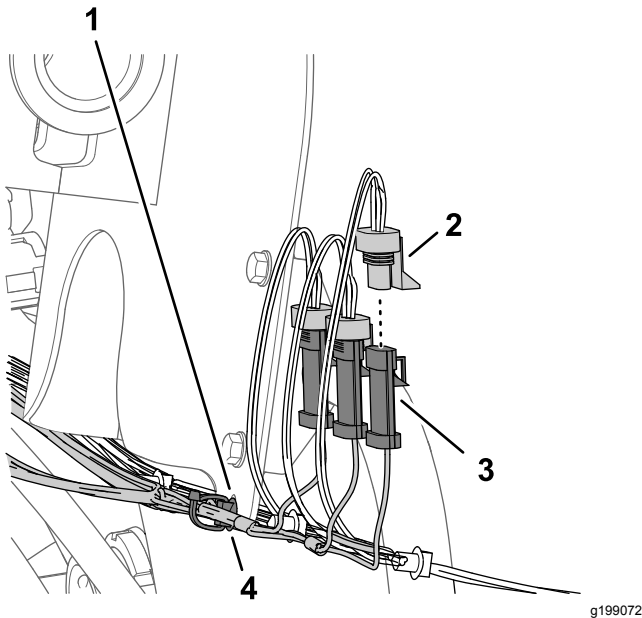

Figure 86
1. Connect the 3-pin connector of the 89 cm (35 inch) wire-harness branch labeled LEFT SPRAY to the 3-socket connector of the machine wire harness labeled LEFT SPRAY VALVE (Figure 86).
2. Connect the 3-pin connector kit wire harness labeled CENTER SPRAY to the 3-socket connector of the machine wire harness labeled CENTER SPRAY VALVE (Figure 86).
3. Connect the 3-pin connector of the kit wire harness labeled RIGHT SPRAY to the 3-socket connector of the machine wire harness labeled RIGHT SPRAY VALVE (Figure 86).
4. Insert the push-in fastener of the kit wire harness into the hole in the flange of the flow-meter bracket (Figure 86).